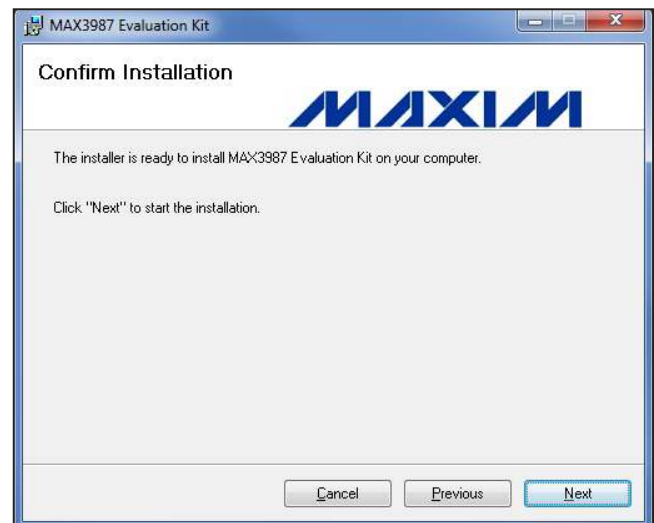

Figure 5. Software Installer Confirm Installation
- 4) Click **Next** to begin the software installation. See Figure 5.